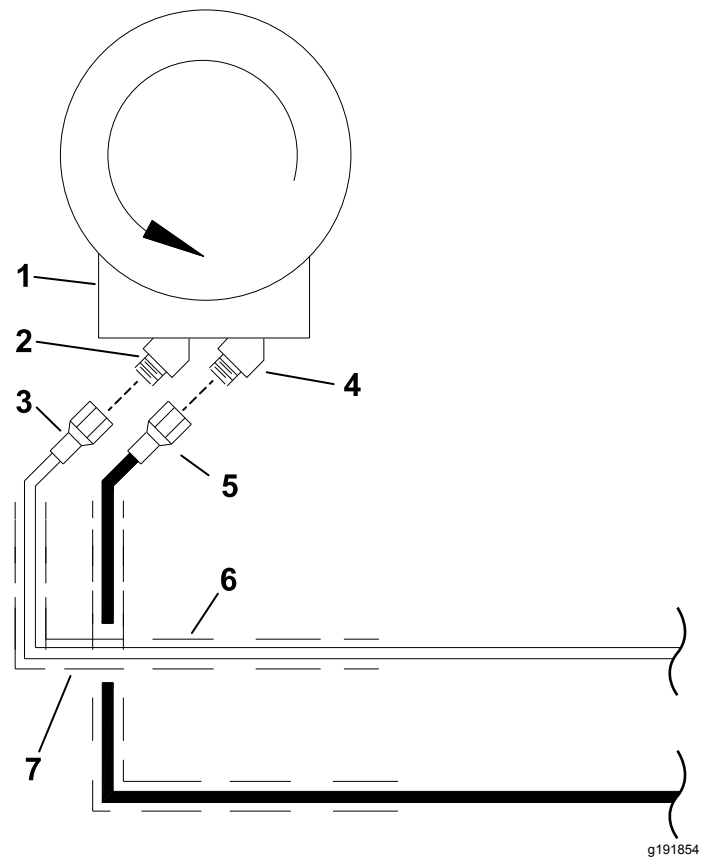

Figure 16
1. Install the hose cover 122 cm (48 inches) over the hydraulic hose included with the core harvester (Figure 16).
2. Install the hose cover 224 cm (88 inches) over the hydraulic hose B—330 cm (130 inches, 8 MP to 6 MP) as shown in (Figure 16).
3. Connect the hydraulic hose included with the core harvester to port A on the elevator motor (Figure 16).
4. Connect the hydraulic hose B—330 cm (130 inches, 8 MP to 6 MP) from the port T quick coupler on the workman to port B on the elevator motor (Figure 16).